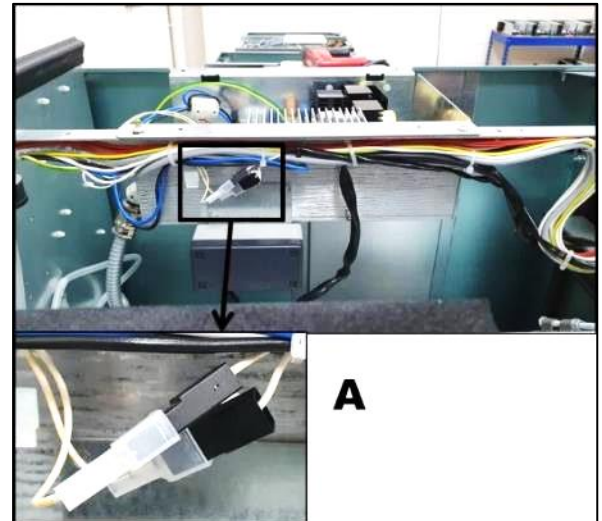

Fig.2.8
- 16. Connect the adapter cable **A** (Fig.2.8) installed in the inverter enclosure to the 12V power supply cables.